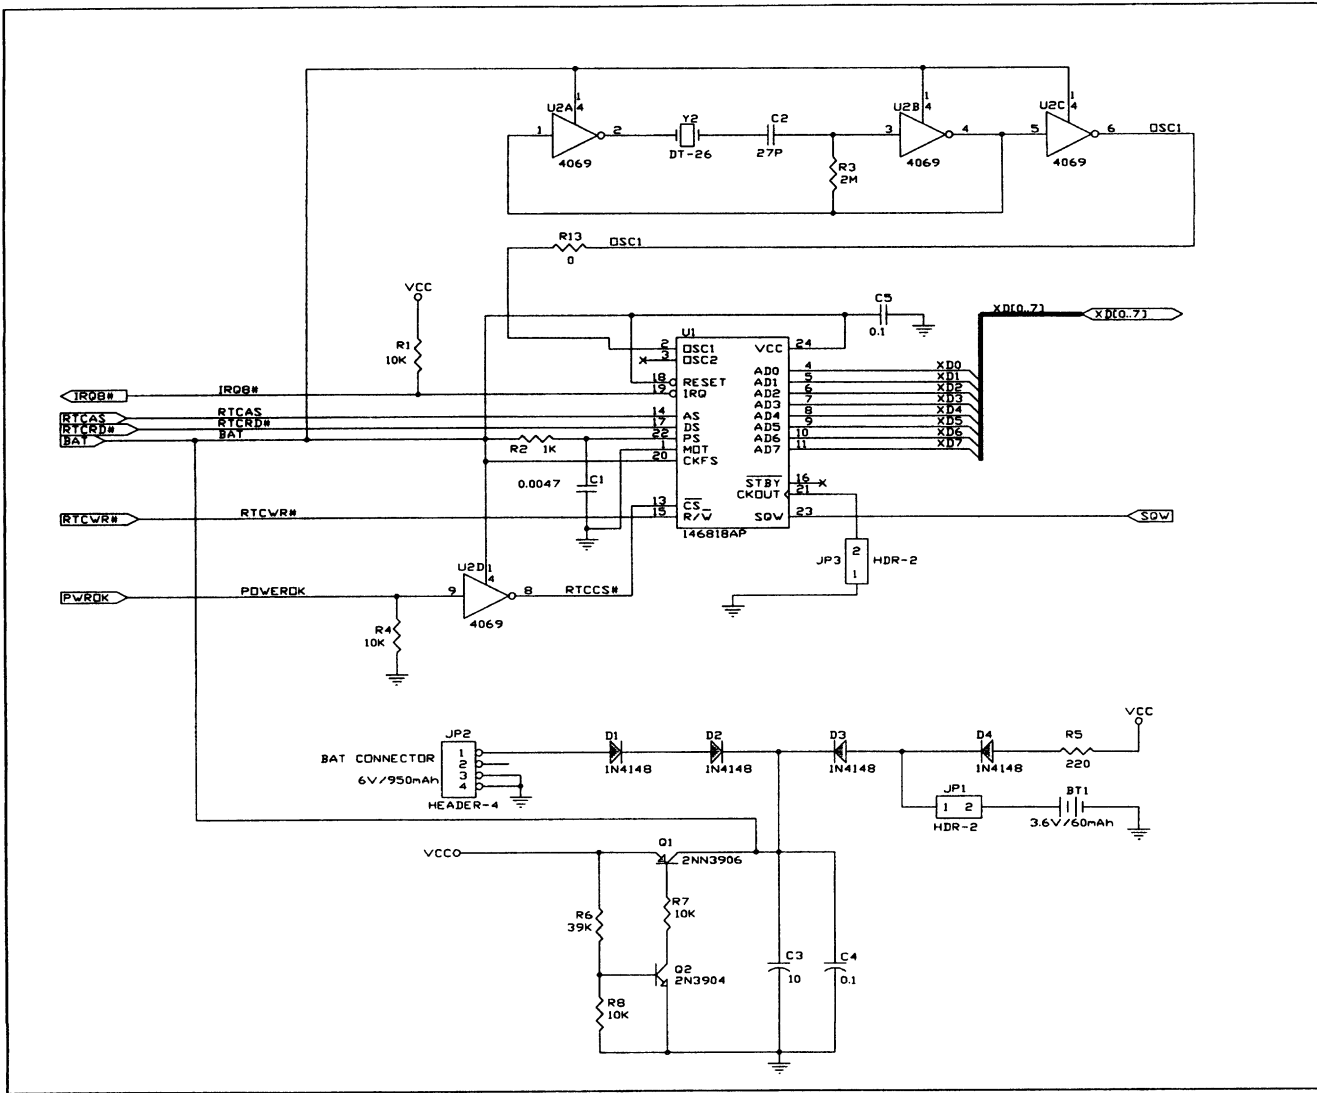

Figure 1. MC146818A ISA (PC/AT) Example
- Example **MC146818A PC/AT design** (Figure 1, Table 3)
**Table 3. MC146818A ISA (PC/AT) Parts List (Figures 1 and 3)**